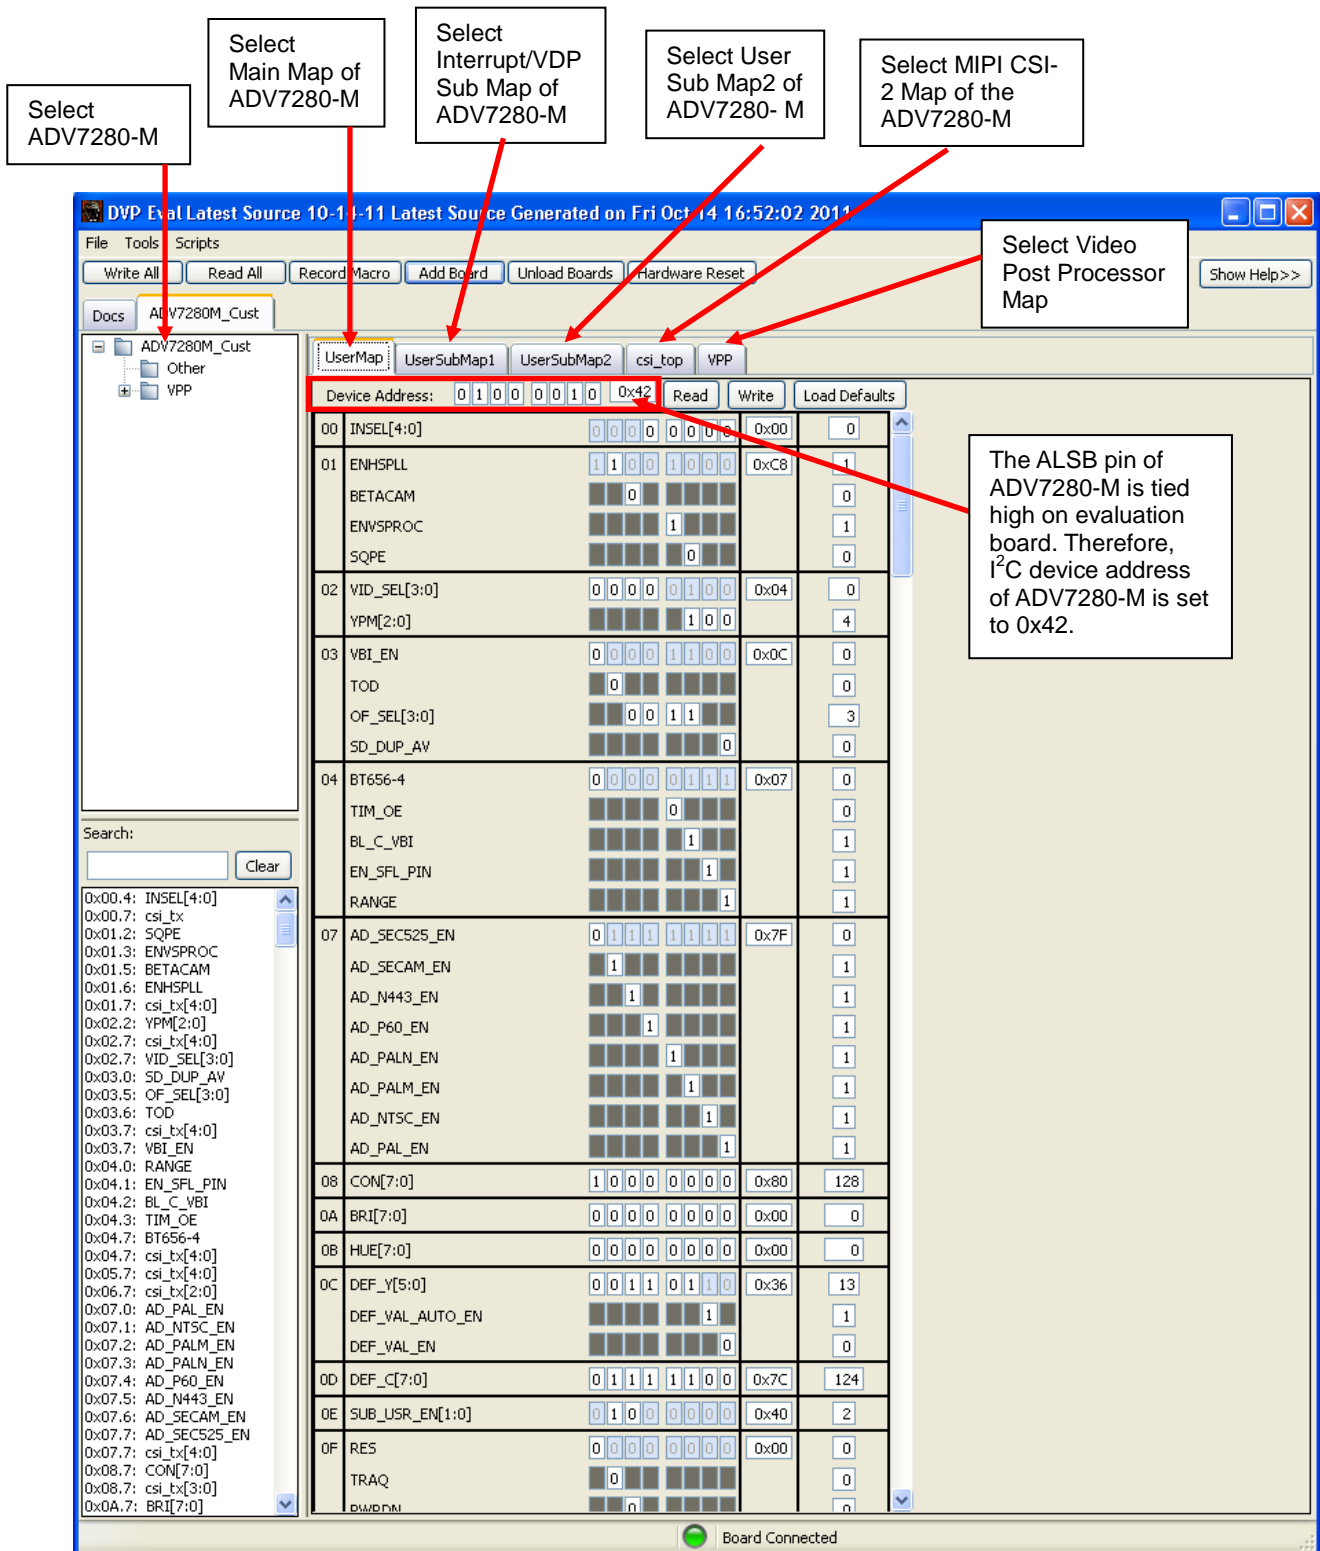

Figure 6. DVP Eval Program After Loading ADV7280-M Board
- Press the **Load** button. A console similar to that shown in Figure 6 appears.